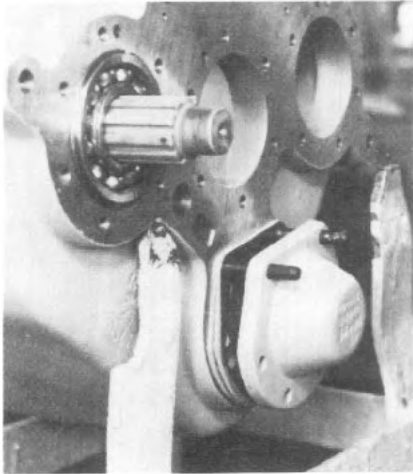

Fig. 17
6. Installation of gaskets, bearing carriers, seal carriers and caps will be simplified if two guide studs are utilized (See Fig. 17). Guide studs may be made by cutting the head off a  $\frac{7}{16}$ -14 bolt of about 3 inches in length. Point the non-threaded end and also slot the end to allow a screwdriver to be used, if necessary, for guide removal.
- Temporarily install the rear output shaft front cover (See Fig. 17). Do not install shims. Tighten the mounting bolts to approximately 25 lb. ft. torque. Measure the gap between the rear output shaft front cover and the case housing with feeler gauges. Add .010 to this figure and then select a shim pack that is equal to this calculated figure or up to .005 larger. Install shim pack, Permatex threads of retaining bolts and tighten to the specified torque.